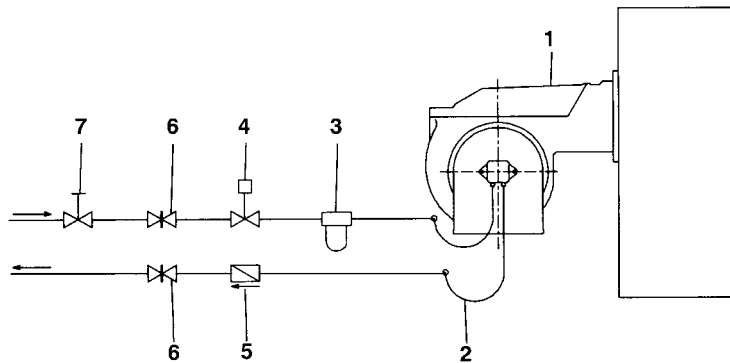

Fig. 4 - Double-pipe system
**NOTE: in plants where gravity or ring feed systems are provided, install an automatic interception device (see n. 4– Fig.4).**